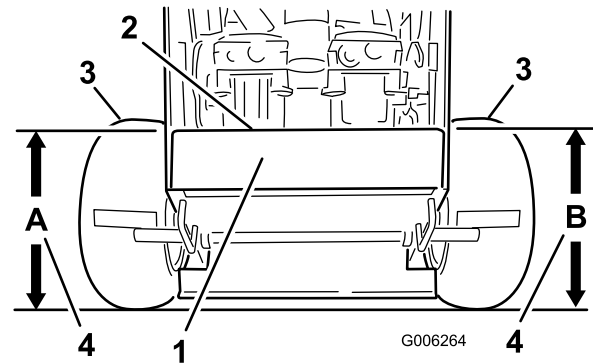

Figure 65
4. Measure engine deck height at location **A** (Figure 65).
5. Measure engine deck height at location **B** (Figure 65).